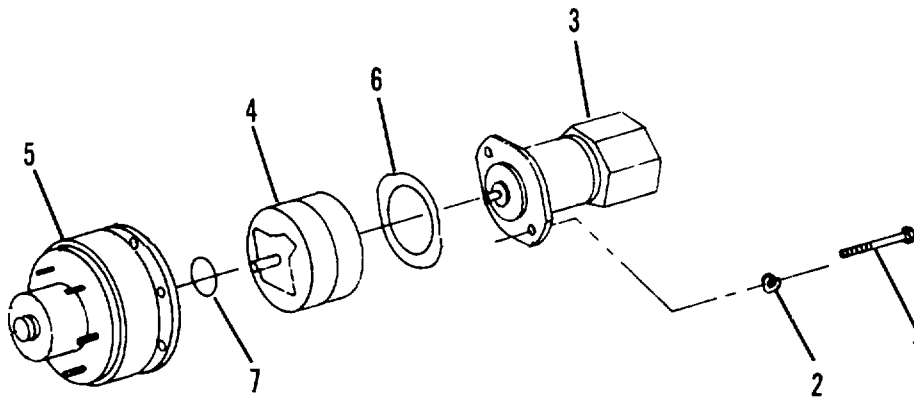

Figure 4-13. Drive Hub Replacement.
(1) Disassembly:
- (a) Remove two capscrews (1, Figure 4-13) and washers (2).